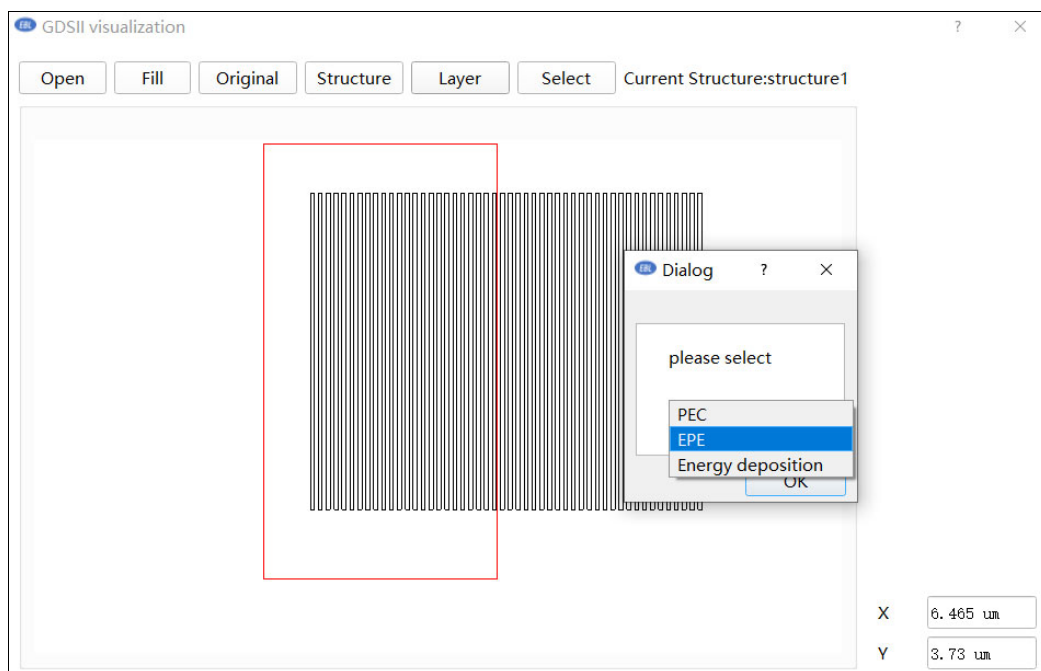
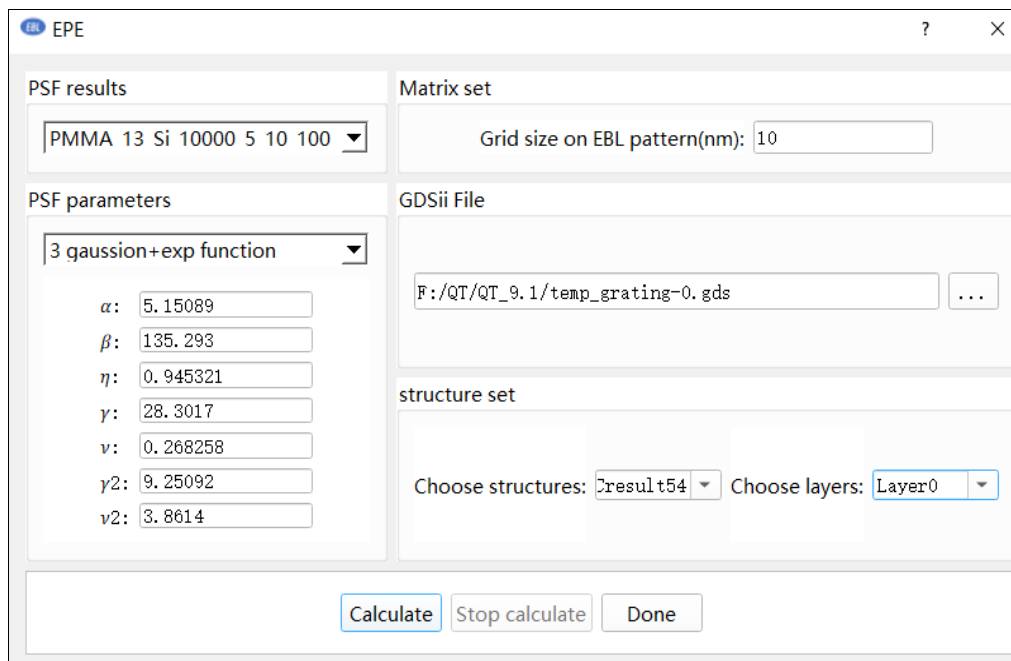

Figure 3.8.3 Operation after box selection
Figure 3.8.4 Select EPE module calculation
- 3) It will automatically generate the GDSII file you selected in the box if you click yes. And the path is in the folder where your software is located (Figure 3.8.3). At the same time, you can select PEC, EPE, energy and other operations (Figure 3.8.4).